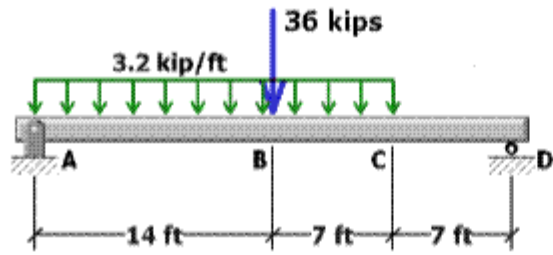

Fig. P10-33
10.33 The simply supported beam shown in Fig. P10-33 consists of a W 24×94 structural steel wide flange shape ($E = 29,000$ ksi; $I = 2,700$ in.⁴). For the loading shown, determine the beam deflection at point C.